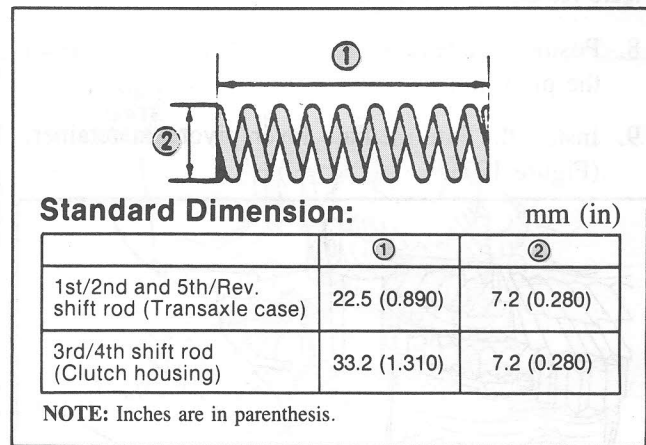

Figure 134 Detent Spring Chart
**NOTE:** There are two lengths of detent springs. The following chart and illustration details the correct position for each spring. (Figure 134).